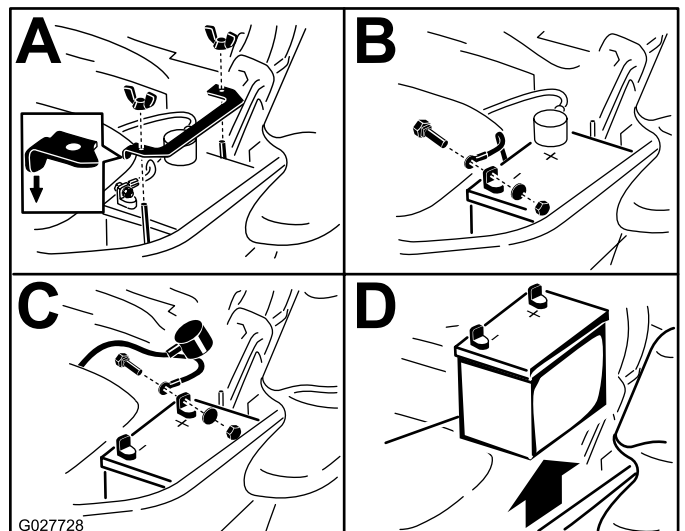

Figure 60
3. Remove the battery as shown in Figure 60.
Note: Position the battery in the tray with the terminal posts opposite from the hydraulic tank (Figure 60).